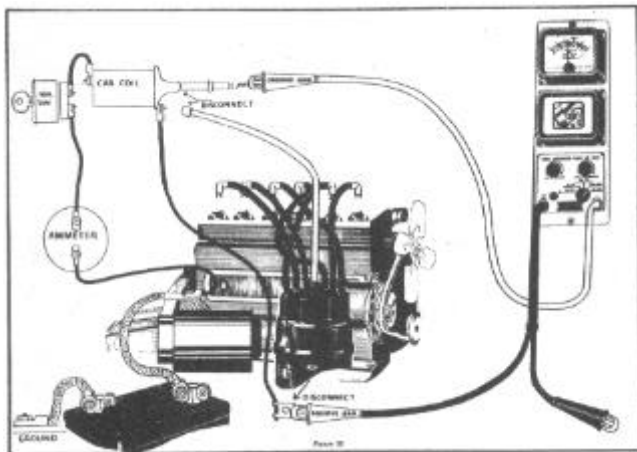

FIGURE 13
4. Separate the Positive Primary and Ground test leads, connect the Positive Primary lead to the Primary ignition wire which was removed from the Distributor, Figure 13.